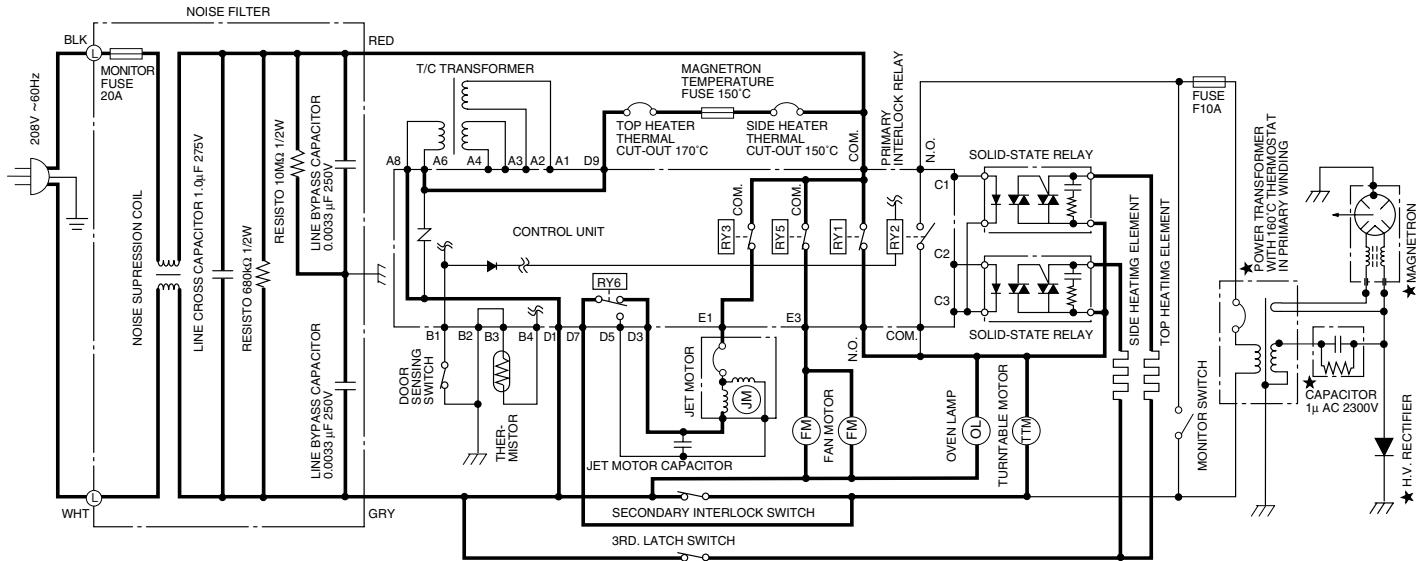

Figure O-3. Oven Schematic-Normal Convection or Speed Bake Cooking Condition
Touch SELECTA PROGRAM pad 3 times. Then touch SET pad. Program desired oven temperature by touching the SET pad. Enter cooking time by touching number pads. When the START pad is touched, the following operations occur: (Figure O-3)
4. Open the door and place food in the oven. Close door. Touch the START pad. (Figure O-3)
Touch SELECTA PROGRAM pad 8 times and touch SET pad. Then touch SET pad to select desired temperature. Enter cooking time. When the START pad is touched, the following operations occur: (Figure O-3)